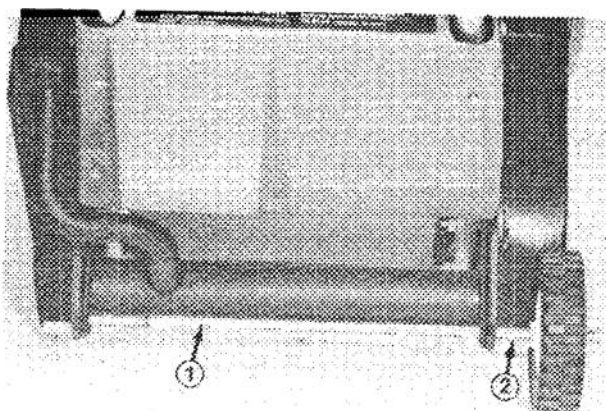

Figure 2
4. Slide axle through both mounting brackets (Fig. 2). Note position of flat washer (Fig. 2).